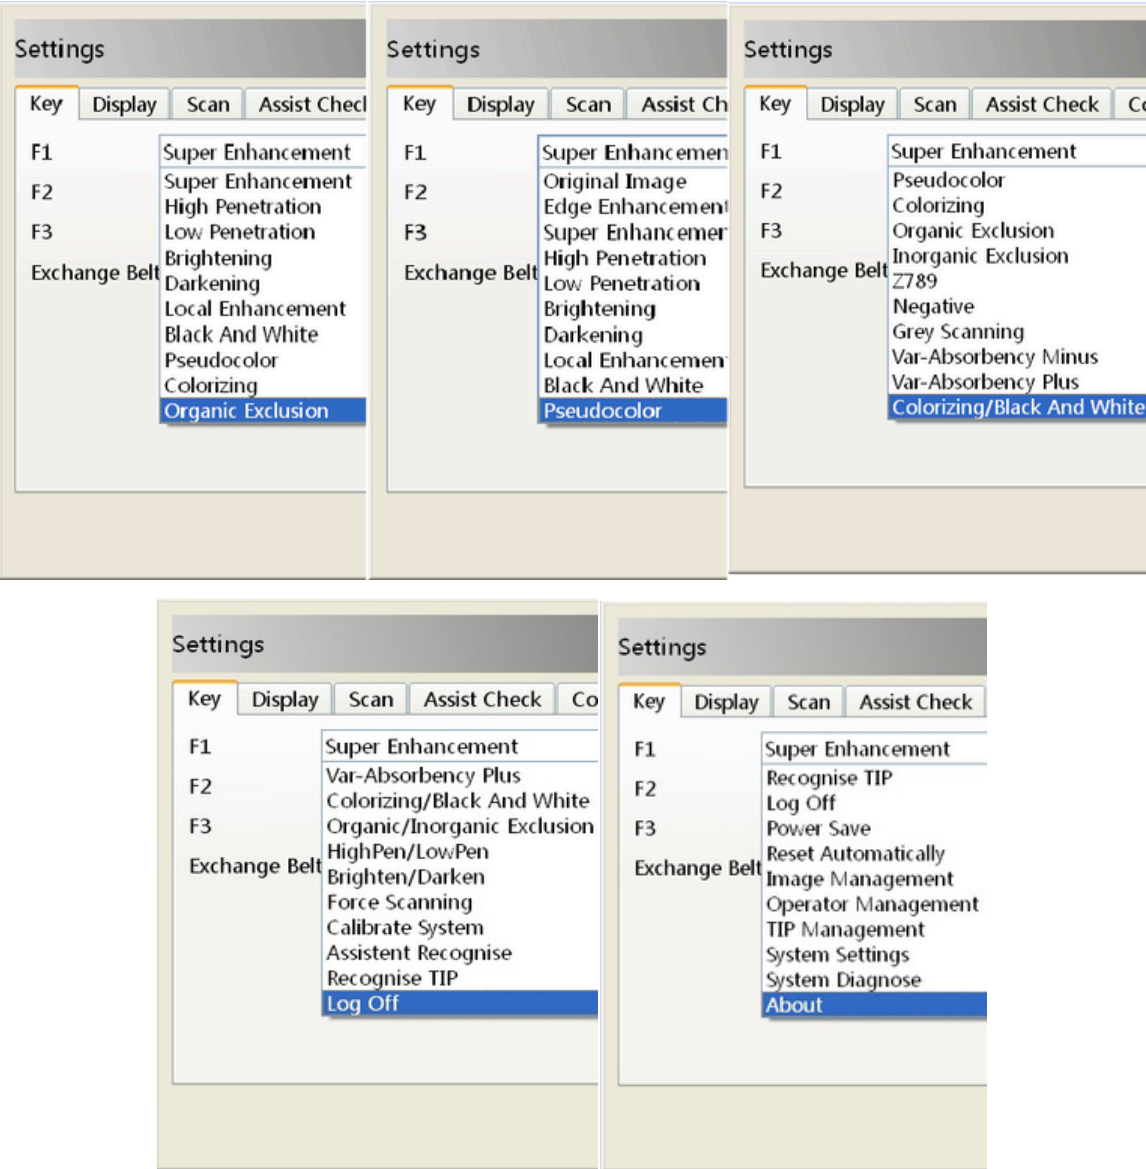

Fig 6.30 Functional Shortcut Setting
- a. The different functions can be given through the drop-down menus on the right of F1, F2 and F3, such as main menu, scroll to old, scroll to new, zoom-in, zoom-out, origin size, magnifier, default process, original image, edge enhancement, super enhancement, high penetration, low penetration, brightening, darkening, local enhancement, Black and White, pseudo color, colorizing, organics exclusion, inorganic exclusion, Z789, negative, gray scanning, var-absorbency minus, var-absorbency plus, colorizing/ Black and White, organics/ inorganic exclusion, high penetration/low penetration, brighten/darken, force scanning, calibration system, Assistant recognise, recognise TIP, log off, power save, reset automatically, image management, operator management, TIP management, system settings, system diagnosis and about. According to the factory default settings: "F1" stands for "Super Enhancement", "F2" for "Local Enhancement" and "F3" for Negative, as shown in Fig 6.30.